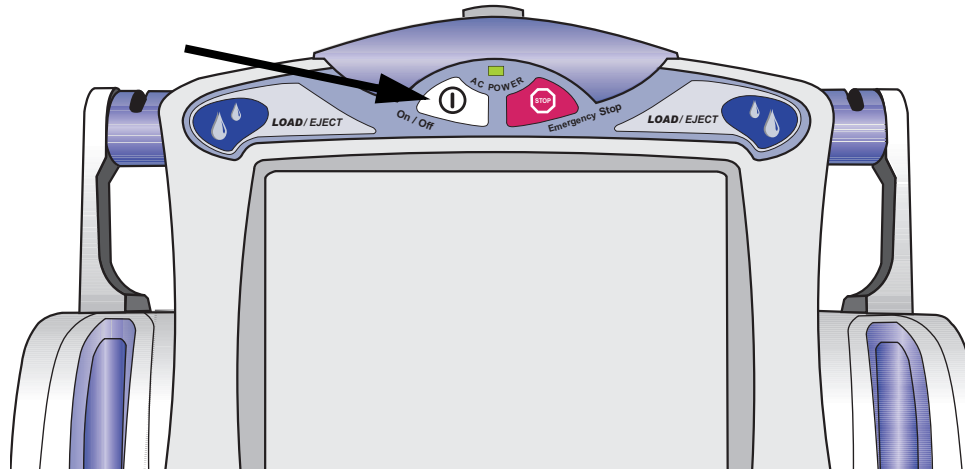

Figure 21: On/Off Button
2. Press and hold the **On/Off button** for one second, and then release. The infuser powers off. See Figure 21: "On/Off Button" on page 38.